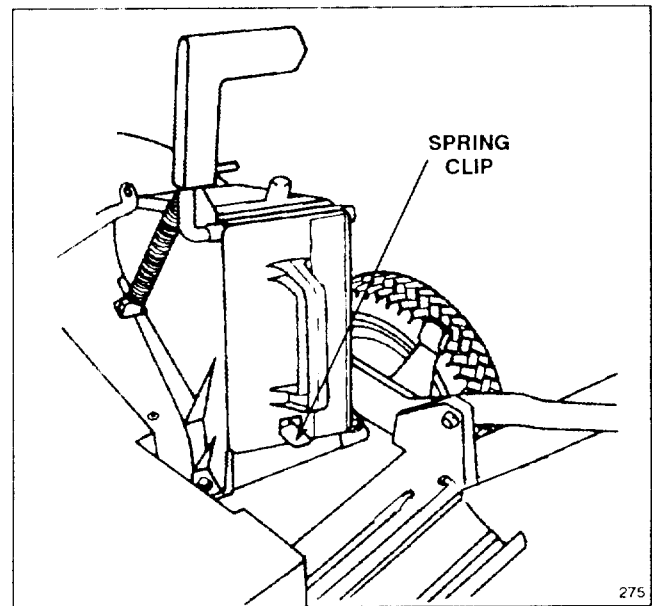

Figure 5
- Push the plug all the way in until the spring clip on the bottom of the plug clicks into place, locking the plug securely into the discharge tunnel (Fig. 5). Release discharge door handle to lock top of plug.